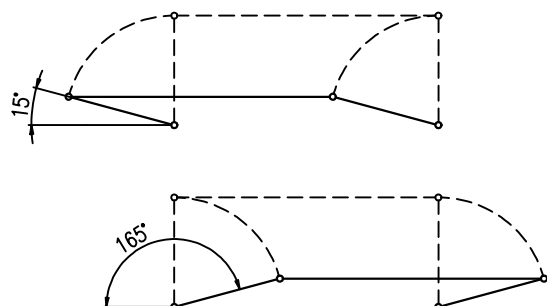

Fig.2
Mechanical lever connection (Fig.2)
- While installing take care to have the angle between the lever and the pull-rod at least 15° and at most 165° (Fig.2).